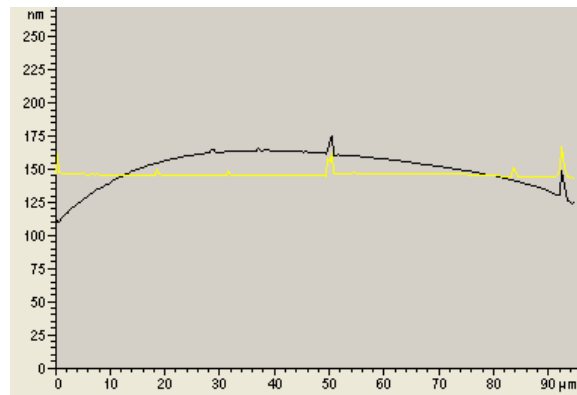

Fig. 2.8 Cross-section profiles showing removal of bow (yellow line) after image processing
- Some of the bowing effect can be taken care of by the software during the image processing as shown in Fig. 2.8 below. The bow was removed by rendering the data in one buffer (shown yellow) at a different order than for the other buffer